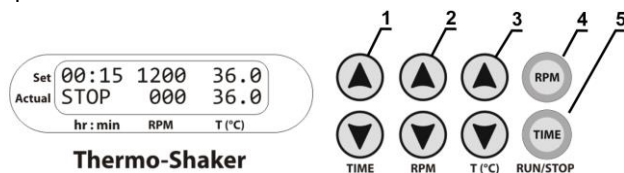

Figure 1. Control panel
- 5.4.1 **Setting time (TIME).** Using the ▲ and ▼ **TIME** keys (fig. 1/1) set the required working time interval in hours and minutes (increment 1 min).
- 5.4.2 **Setting speed (RPM).** Using the ▲ and ▼ **RPM** keys (fig. 1/2) set the required speed (increment 10 rpm).
- 5.4.3 **Setting temperature (T, °C).** Using the ▲ and ▼ **T, °C** keys (fig. 1/3) set the necessary temperature (increment 0.1°C).
5.5.2 Press the **RPM RUN/STOP** key (fig. 1/4). The platform will start rotating and the timer indicator will start counting the time interval (with 1 min precision).
5.8 If required, there is possibility to restart the timer when it is running. Press the **TIME RUN/STOP** key once (fig. 1/5) to stop the timer. Press the **TIME RUN/STOP** key again to restart the timer.
Caution! At the end of the set time period the platform movement is stopped automatically, but the heating can be stopped only manually by reducing the temperature using the **▼ T, °C** key (fig. 1/3 - lower key) till the OFF sign appears in the upper line (Set) of the display